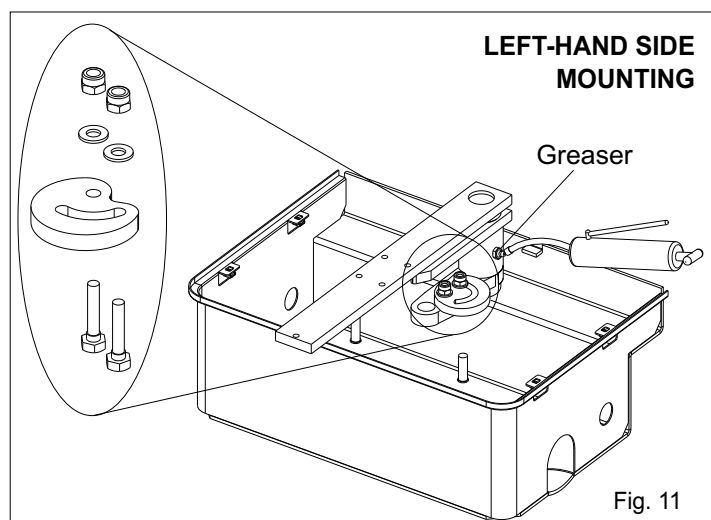
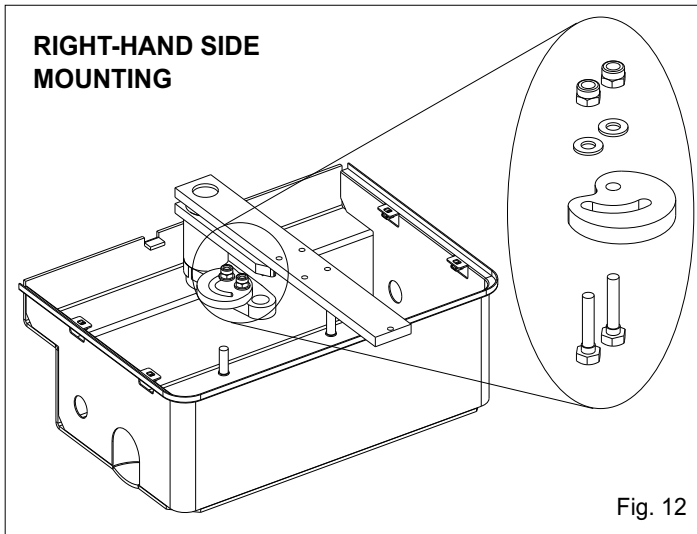

Fig. 11
Fig. 12
2.7. Insert the cam of the limit switch into the handle bar and fix it with the special screws (left-hand side mounting Fig. 11, right-hand side mounting Fig. 12)
When putting in function the installation it is peremptory to lubricate the box as in Fig. 11 until the grease comes out. (Use grease type DIN 51502 KP 2 N-20 - K 2 K-20).